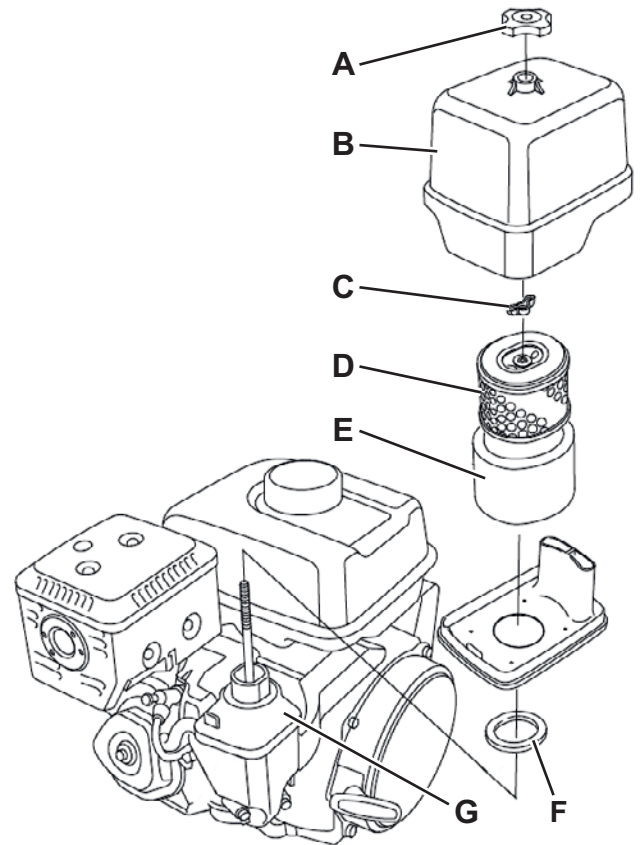

Figure 25
2. Turn the ignition key (51) to "0".
3. Open the engine compartment hood (19) and fasten it with the support rod (44).
4. Lift and remove the right side panel (31).
5. Remove the wing nut (A, Fig. 25) and remove the cover (B).
6. Remove the wing nut (C) and disassemble the filter element.
7. Separate the paper filter (D) from the foam filter (E).
8. Check both filters and replace them if necessary. Replace the paper filter (D) when required (see the scheduled maintenance table).
10. Clean with a wet cloth the base and the cover (B) of the air filter. Take care to prevent dirt entering the air duct (G).
11. Fit the foam filter (E) on the paper filter (D), then install the assembled filter element. Ensure that the gasket (F) is properly placed under the filter element. Screw down the filter element wing nut (C).
12. Install the cover (B) and screw down the wing nut (A).